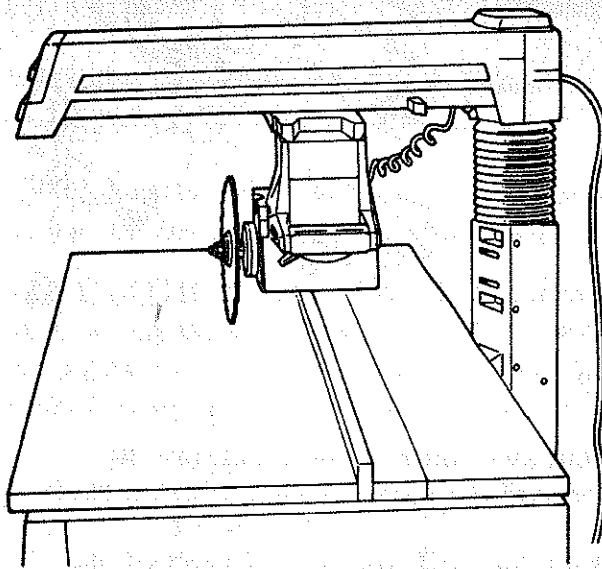

Fig. 114 - Out-rip Position
1. Unlock the *swivel lock* and turn the *motor* to the out-rip position with the *motor* between the *blade* and *fence*. (Figure 114)